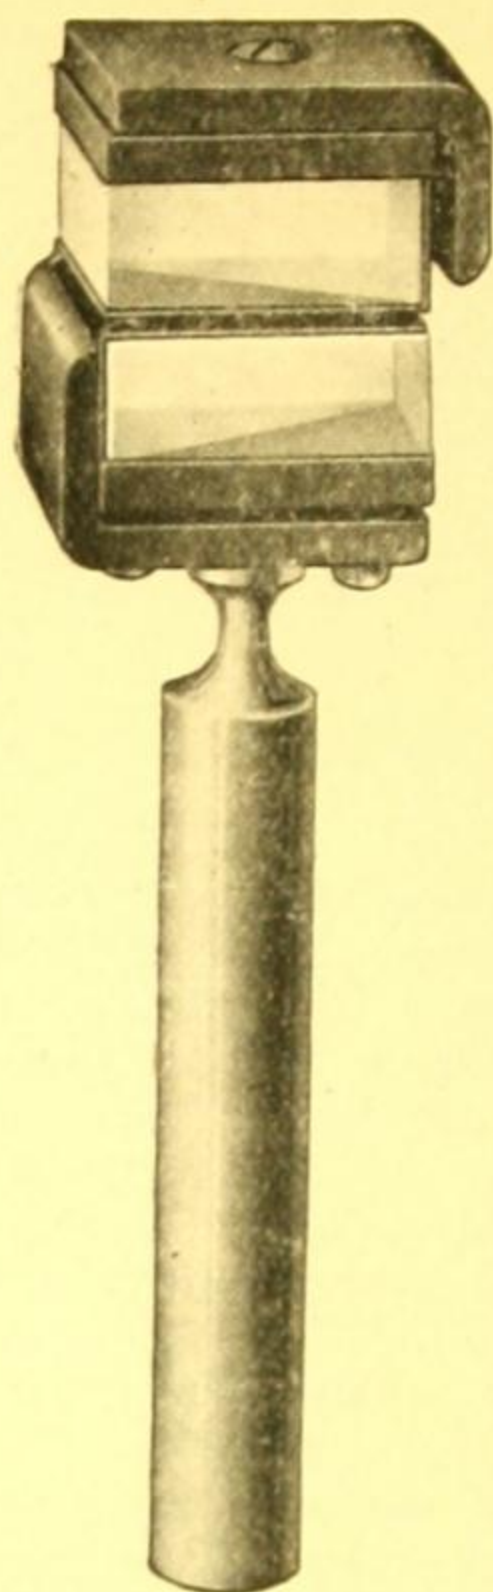

Fig. 105.
- SM 373.—**Prismatic Optical Square and Cross Staff**, consisting of two triangular prisms of the same type as the prism in No. 371, mounted one above the other. With this combination of prisms it is possible to lay out a straight line to right and left of a point, and at the same time to lay out right angles in both directions. A plummet can be attached to the handle..... Fig. 105   £1 15 0